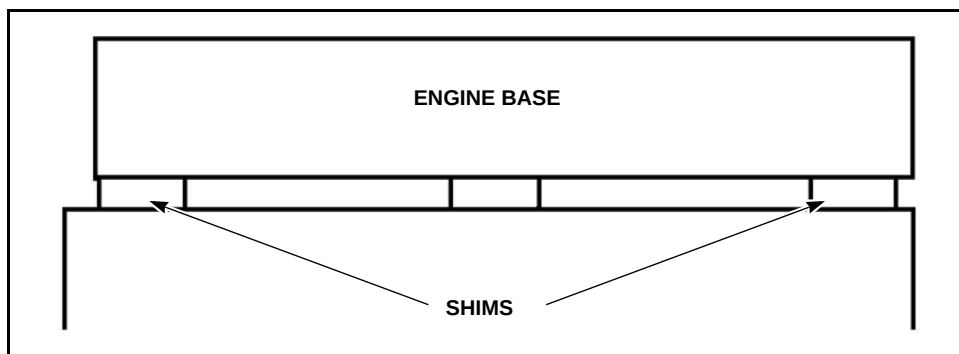

Figure 2-12 Level Engine Base With Natural Sag Removed
- If the dial indicator has not been moved or bumped, it should read positive by the amount indicated above, compared to when it was first zeroed. The engine base is now level with all the natural sag removed (see Figure 2-12).